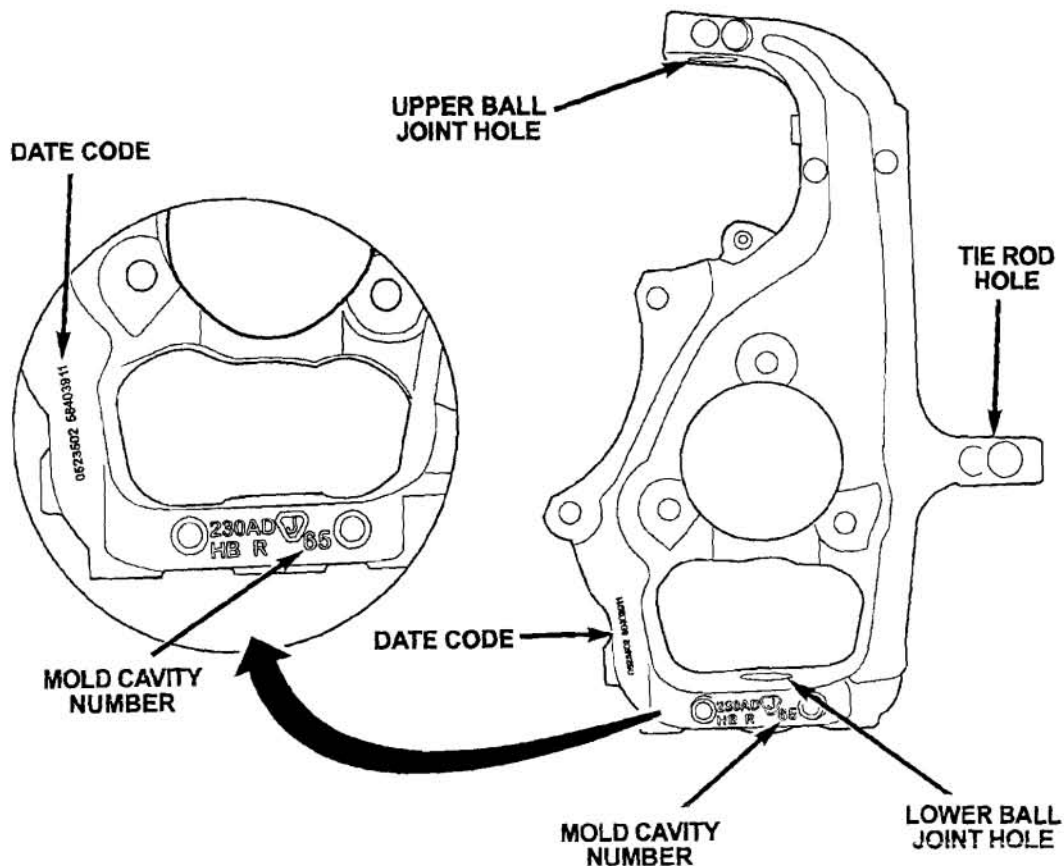

Figure 1
2. Look on the inboard side of the right steering knuckle. Read the cavity number to right of the letter “J” (Figure 1).
- If the mold cavity number **IS** #63, read the 15 digit date code (Figure 1). If the first 5 digits of the date code is either **06199XX_XXXXXXX** or **06200XX_XXXXXXX**, continue to Section B – Replace the Right Steering Knuckle. If the first five digits of the date code are **NOT** **06199...** or **06200...**, return the vehicle to the customer.